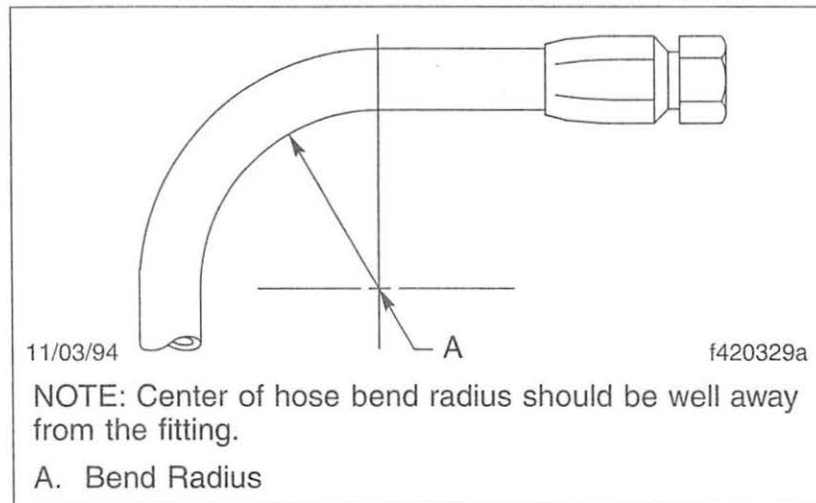

Fig. 11.13, Bend Radius
- 29.8 Check the minimum bend radii of all hoses. The minimum bend radius of a hose is that bend which the hose will withstand without experiencing damaging stresses or kinking. See **Fig. 11.13**. For minimum bend radius values, refer to **Group 42** in the vehicle workshop manual.